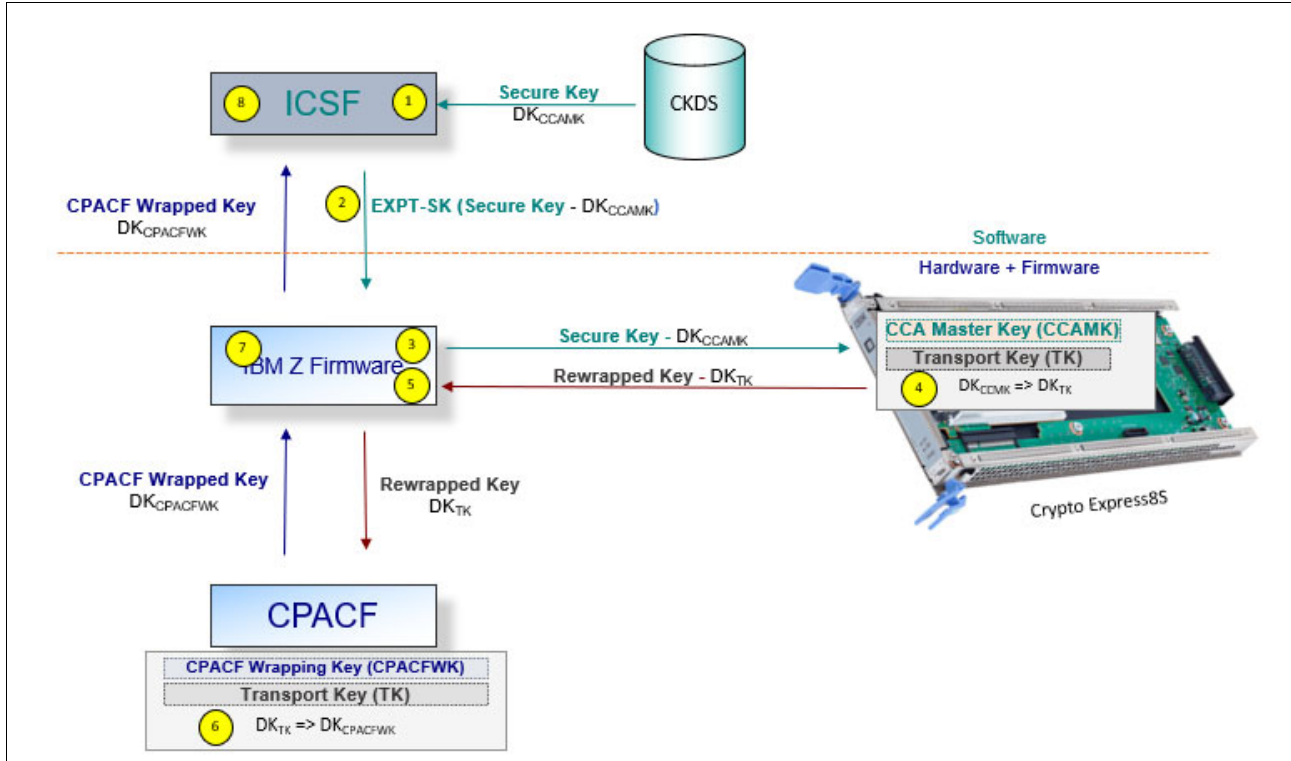

Figure 6-5 CPACF key wrapping for Crypto Express8S, Crypto Express7S, and Crypto Express6S
Wrapping keys are generated during the clear reset each time an LPAR is activated or reset. No customizable option is available at Support Element (SE) or Hardware Management Console (HMC) that permits or avoids the wrapping key generation. This function flow for the Crypto Express8S, Crypto Express7S, and Crypto Express6S adapters is shown in Figure 6-5.
A new segment in the profiles of the CSFKEYS class in IBM RACF® restricts which secure keys can be used as protected keys. By default, all secure keys are considered not eligible to be used as protected keys. The process that is shown in Figure 6-5 considers a secure key as the source of a protected key.